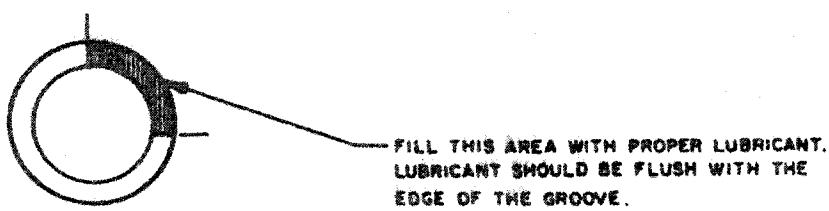

Figure 6.4. Lube Application to O-Ring Grooves
- Pack one-quarter the distance around the groove with the required lubricant prior to installing the O-ring (see Figure 6.4).